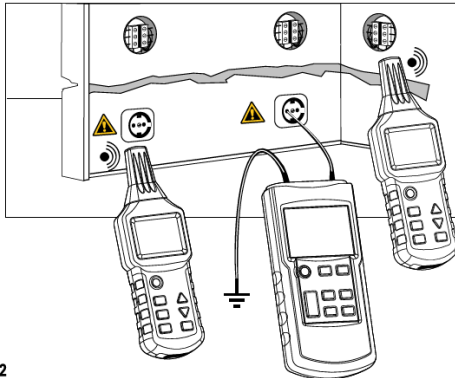

Fig. 3-1-2
- Connect the transmitter to the phase and protective ground per Fig. 3-1-2.